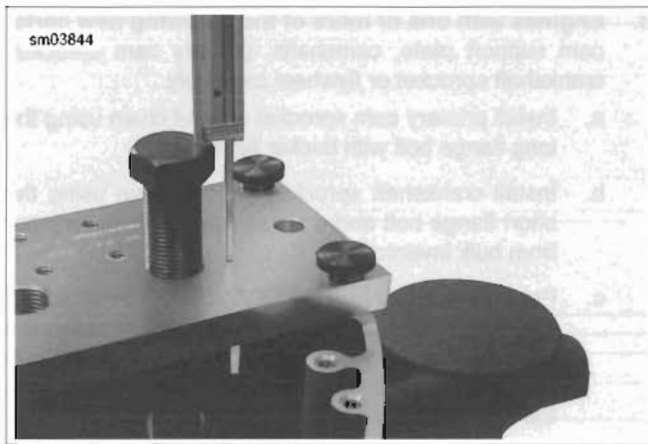

Figure 3-108. Measure from Top of Forcing Screw to Support Plate
11. See Figure 3-108. Once the bearing is at correct depth, measure from head (top) of installer forcing screw to support plate. Record this measurement.